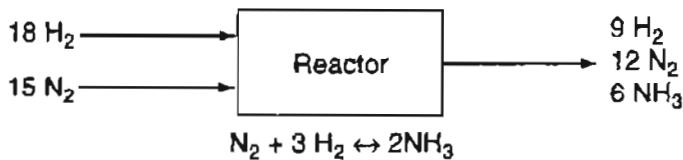

Figure 10.1. A reactor to produce NH_3 .
To make the idea clear, consider the well-known reaction of N_2 and H_2 to form NH_3 . Figure 10.1 presents the process as an open, steady-state system operating for 1 min so that the accumulation terms are zero on the lefthand side of the equal sign in Equation (10.1). The data in Figure 10.1 are in g mol.
You can conclude for the case of a single chemical reaction that the specification of the extent of reaction provides the one independent quantity that accounts for all of the values of the generation and consumption terms for the various species in the respective implementations of Equation (10.1). The three species balances corresponding to the process in Figure 10.1 are
Calculate ξ for the process in Figure 10.1. Based on NH₃
- Does it make any difference if the process in Figure 10.1 is transformed into a closed (batch) system? No. You can treat the process as a closed, unsteady-state system by changing your viewpoint as explained in Chapter 6. For a closed, unsteady-state system the flows in and out would be zero, and Equation (10.1) would become